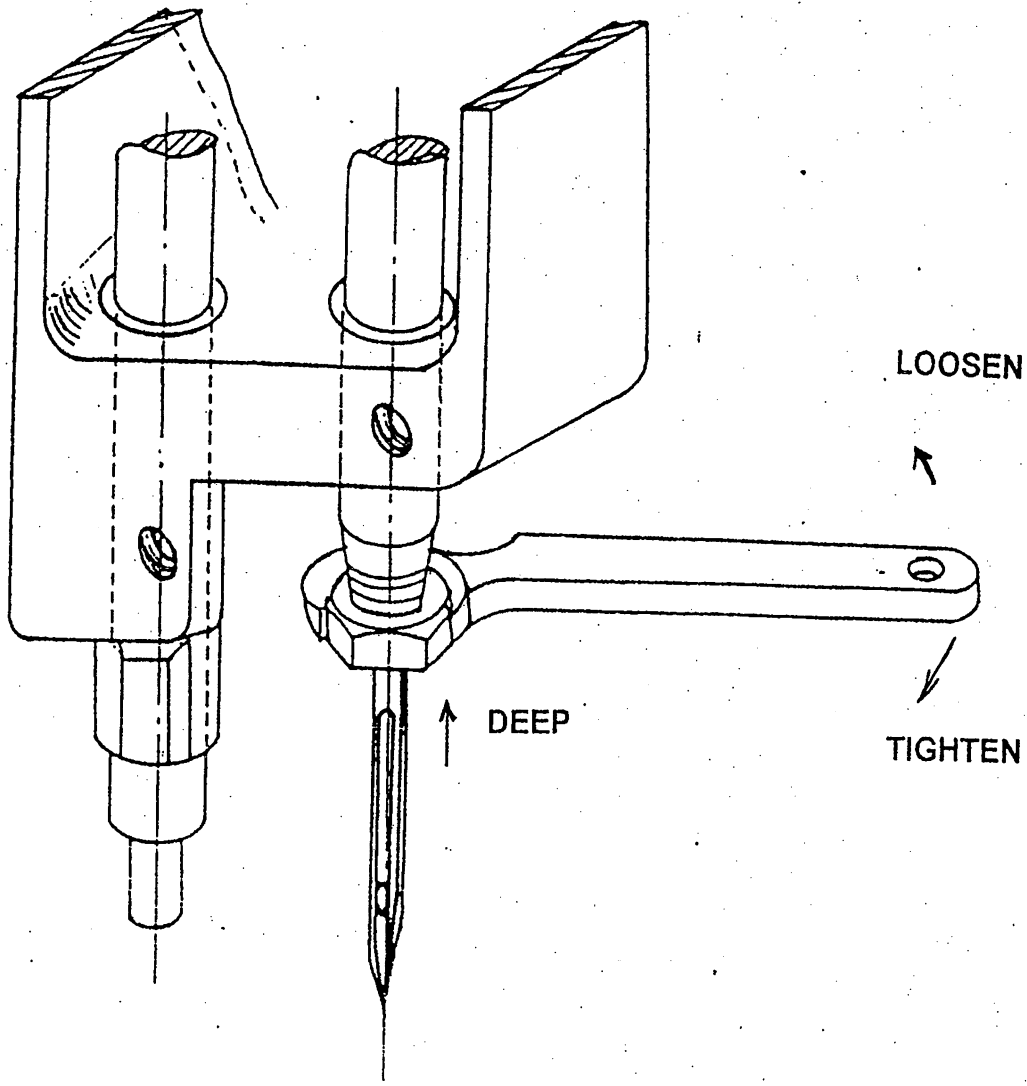

Fig. 01
A) Needle Assembly / Disassembly : (See also Fig.01)